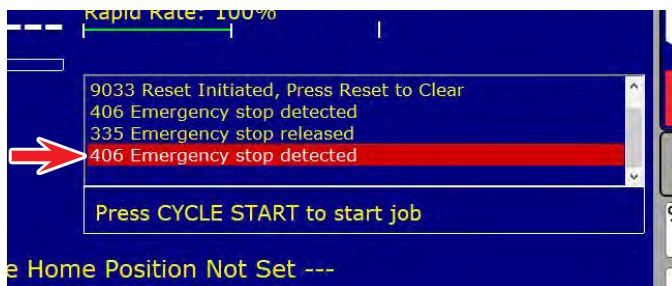

FIGURE 39
- A. If the E-stop button is activated when you open the control software, the alarm message will show “406 Emergency stop detected” (see Figure 39).